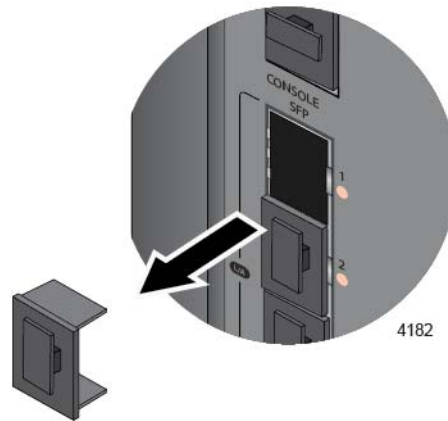

Figure 25. Removing the Dust Plug from an SFP Slot
1. Remove the dust plug from a transceiver slot. Figure 25 on page 79 shows the dust plug removed from slot 1.